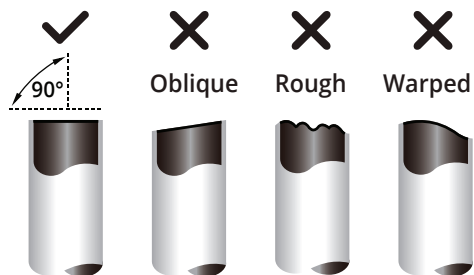

Fig. 6.3
3. Ensure the pipe is cut at a perfect 90° angle. Please refer to **Fig. 6.3** below for cut examples.